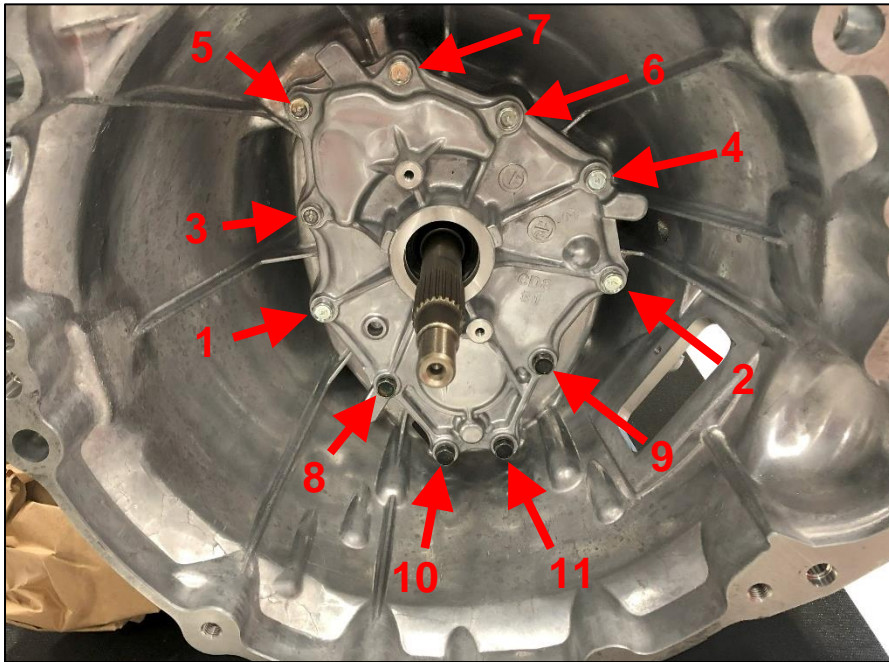

Figure 2
NOTE: Be sure to label which bolts (#8-11) are sealing bolts in accordance with *Figure 2*.
22. Tighten front cover bolts in order as shown in *Figure 2* above and torque to 13ft-lbs. Use Thread Sealant/RTV on bolts #8-11. *Figure 4.*